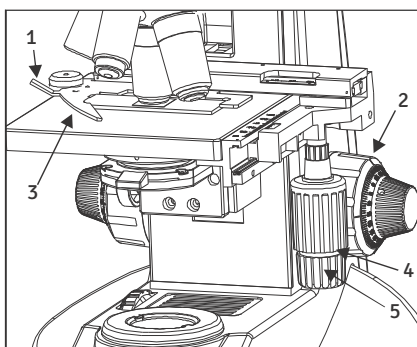

Fig. 17
Place the specimen gently on the stage. If the bow-shaped lever (3) is returned with a strong force or the control knob (1) or the bow-shaped lever is released in the middle, the slide glass may be broken. See figure 17.
1. Rotate the coarse adjustment knob (2) in anticlockwise direction to fully lower the stage.
2. Open the bow-shaped lever (3) outward by pulling on lever handle (1), place the specimen by sliding the specimen glass plate (s) on the stage from the front toward the slide seat at the rear.
3. After positioning your specimen slides, (2max) return the bow-shaped lever (3) gently by slowly releasing control knob (1).
4. Rotating the upper co-axial knob controlling the y-axis movement (4) moves the specimen in the vertical direction. Rotating the lower knob (%) moves the specimen in the X-axis or horizontal direction.